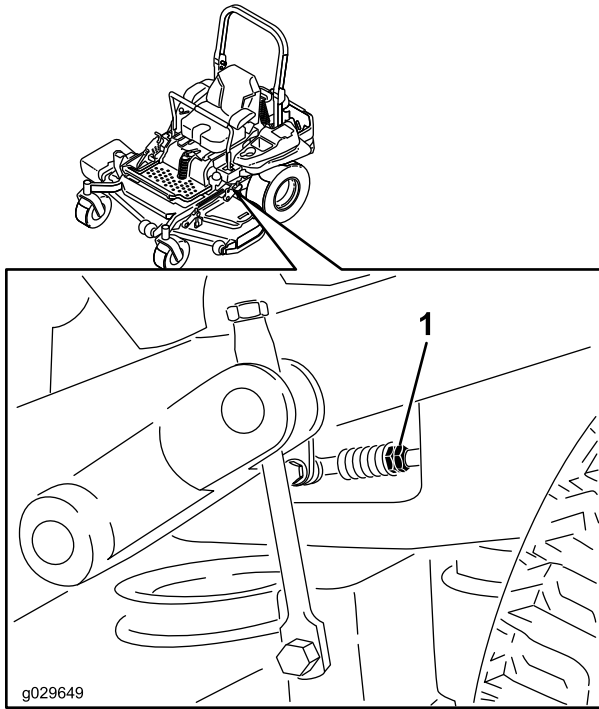

Figure 88
8. Adjust the pump control rod lengths by rotating the double nuts on the rod in the appropriate direction until the wheels slightly creep in reverse (Figure 88).